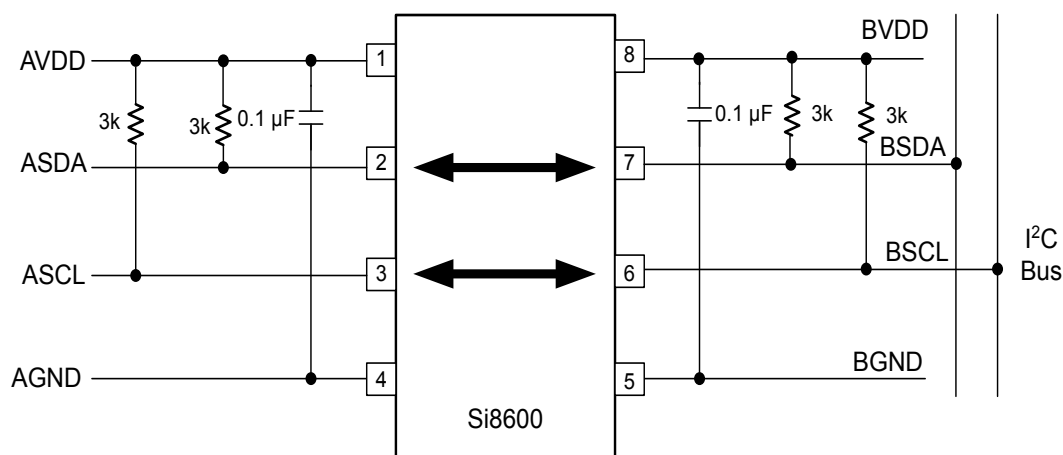

Figure 3.2. Typical Si8600 Application Diagram
3.0 V < VDD < 5.5 V. T_A = −40 to +125 °C. Typical specs at 25 °C (See Figure 5.2 Simplified Timing Test Diagram on page 19 and Figure 3.2 Typical Si8600 Application Diagram on page 9 for test diagrams.)